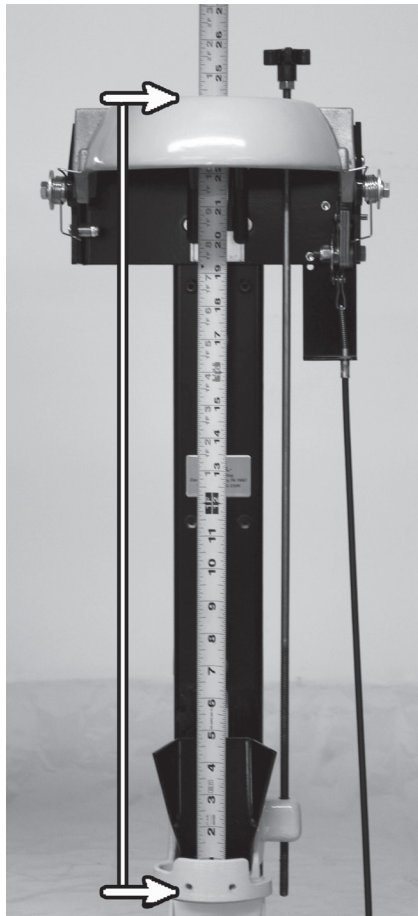

Figure 5
11. Measure the distance from the inside bottom of the Footplate to the inside top of the closed Top Clamp (*see Figure 5, page 12*). This distance should equal your overall length of the Air Cylinder plus 1/2". To adjust, loosen the two (2) 5/16-18 x 1" screws holding the Footplate to the Backplate enough so that the Footplate can slide up and down on the Backplate. Slide the Footplate into the proper position and re-tighten the two screws.